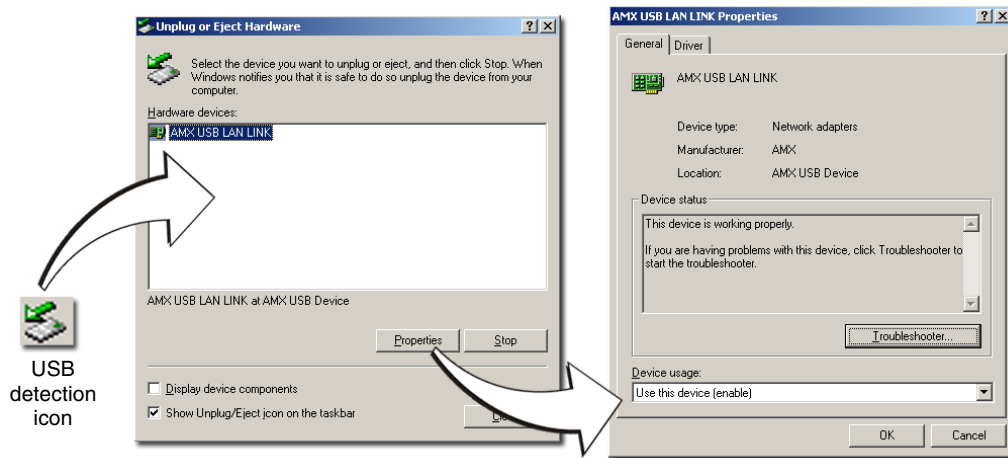

FIG. 55 USB Properties windows
3. Confirm that a new USB detection icon (FIG. 55) appears in the lower-right taskbar on the PC display window.